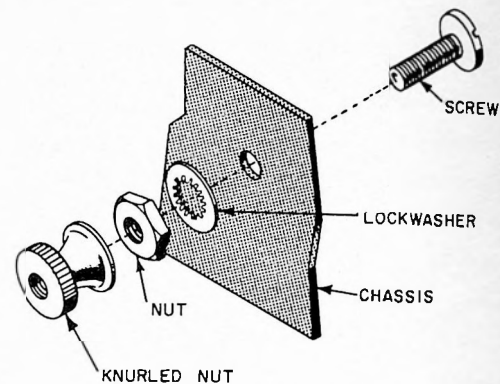

FIGURE 7. GROUND POST MOUNTING
- Ground post, an 8-32 x  $\frac{1}{2}$ " screw, lockwasher, nut and knurled nut. Assemble as shown in Figure 7.